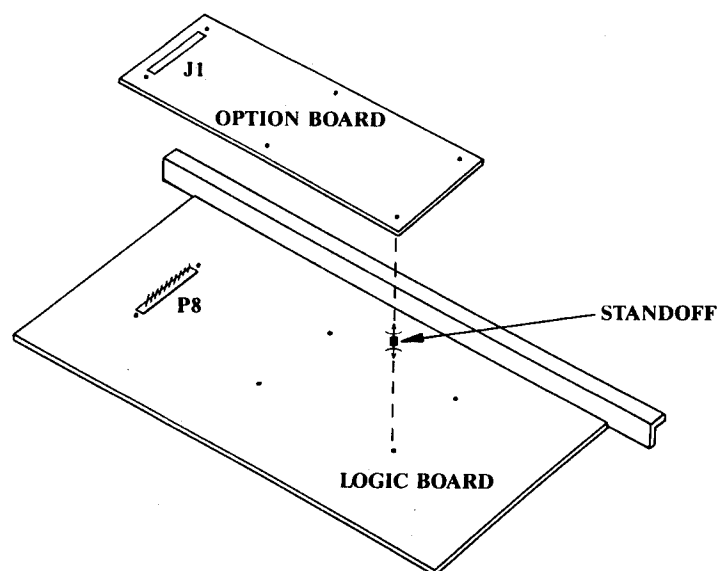

FIGURE C-2. OPTION BOARD
5. Place the option board over the plotter logic board with the component side up, but do not attempt to install it at this time. Turn the option board so that its connector J1 is on the same end of the logic board as the logic board connector P8 (the row of large pins). Note that there are six holes in the buffer option board and four holes in the Kanji option board with corresponding holes in the logic board. These holes are for the snap-in plastic standoffs. See Figure C-2.